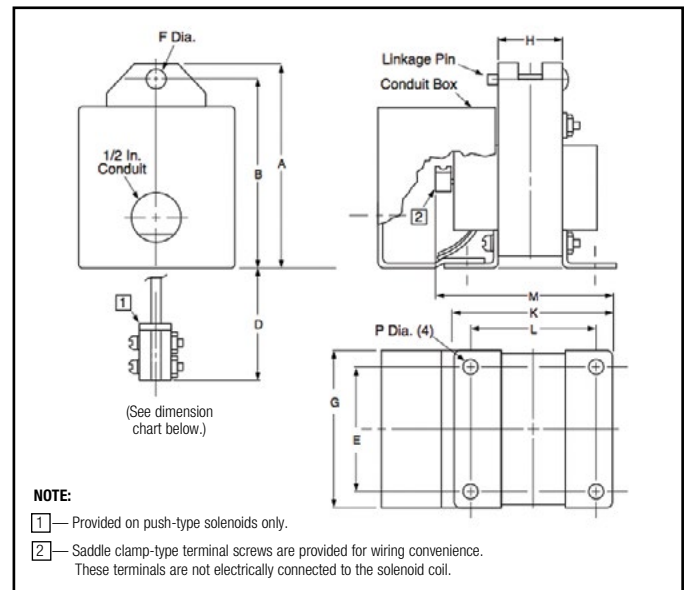

Figure 2.5
Part No.	Dimension (Inches) of Electric Solenoids (See Figure 2.5)
**The solenoid must be properly aligned with the trip-rod for a successful application. The installation must allow the solenoid plunger to travel in a straight line, perpendicular to the mounting surface. Be sure that the solenoid plunger moves freely and is fully seated when the machine clutch trips. The solenoid plunger MUST seat at the end of the stroke to prevent overheating and coil burnout. The recommended maximum stroke must never be exceeded. See Figure 2.5 for mounting dimensions.**